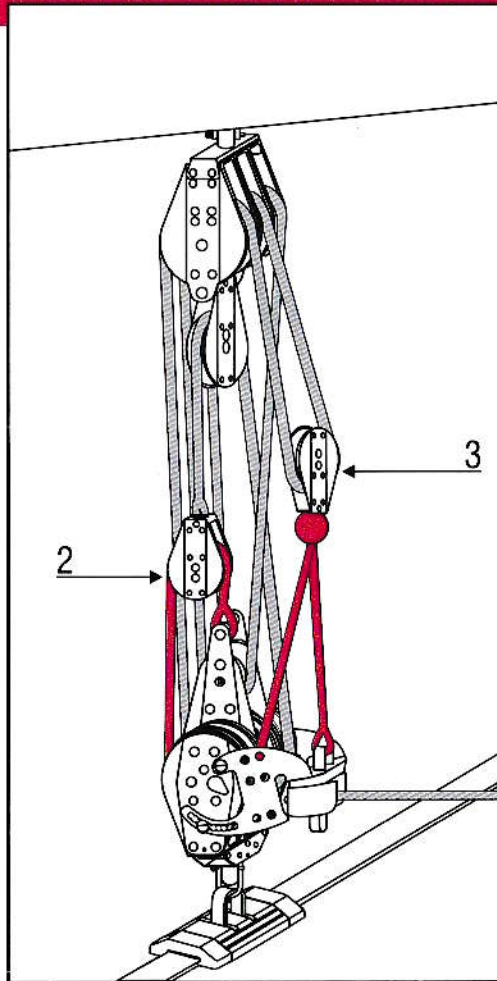

Figure 1: Sheet in so the main is close hauled.
Make sure you can sheet to the normal "close hauled" position without blocks 2 and 3 hitting the boom block. (Figure 1) To change the fine-tune scope, adjust the length of the tether and the fine-tune lines. The fine-tune line will be roughly three times the length of the tether line.
Tip: When adjusting scope, with the tether straight as in Figure 1, make sure the knot or splice at the top of block 2 is even with the ball on block 3.
- Sheet in so the main is close hauled (**Figure 1**). Once tether 6 straightens, you are in gross-trim mode.
- Ease line and tether will collapse (**Figure 2**). If tether doesn't collapse, make sure both Hexaratchets are switched on so sheave 1 is locked. Trim in and Magic Blocks are in fine-tune mode. You will stay in this mode until block 3 reaches the end of tether (**Figure 1**).
Here's what to watch for under sail: While sailing upwind, sheet to the normal maximum. The first pull may be hard since you are in gross-trim. Let out the mainsheet and watch the tether line 6 collapse as block 3 moves downward (**Figures 1 to 3**). Sheet in and you are in the 14:1 range (**Figure 2**). You can now play the mainsheet in the 14:1 fine-tune range.